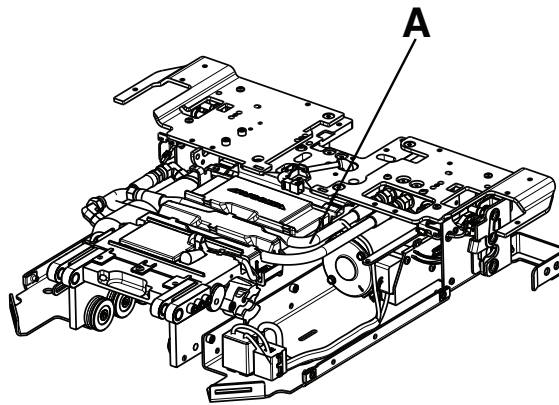
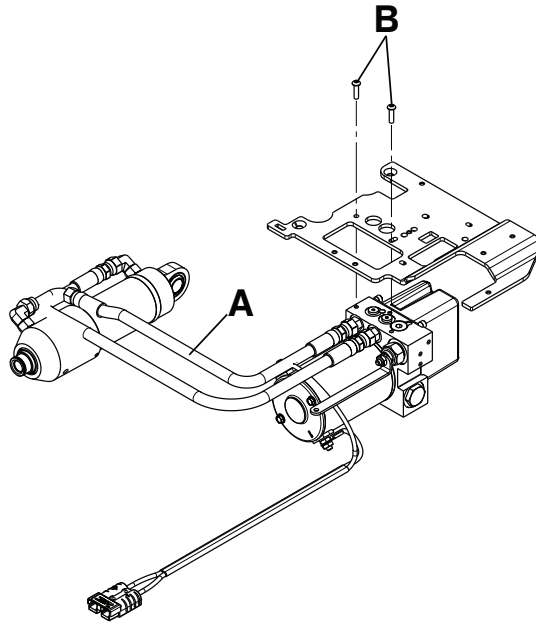

Figure 37 – Hydraulic hose location
Figure 38 – Manifold fitting screws location
3. Using an 11/16" combination wrench, disconnect the hydraulic hose (A) closest to the mounting bracket at the head end of the trolley (Figure 37 and Figure 38).
4. Using a T25 Torx driver, loosen (do not remove) the two screws (B) that secure the manifold fitting to the left wing plate (Figure 38).